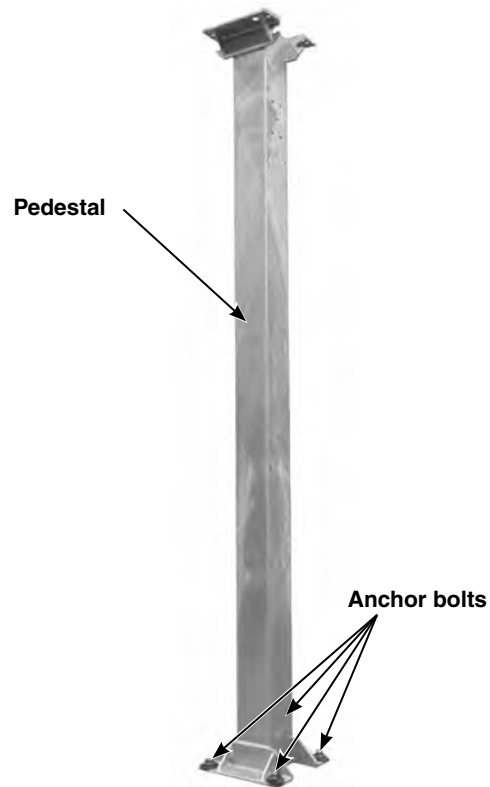

Figure 25. Adjust the lower set of anchor-bolt nuts to generally plumb and level the pedestals.
- Adjust the lower set of anchor-bolt nuts to generally plumb and level the pedestals. The upper set of anchor-bolt nuts should be only loosely attached at this time. See Figure 25.